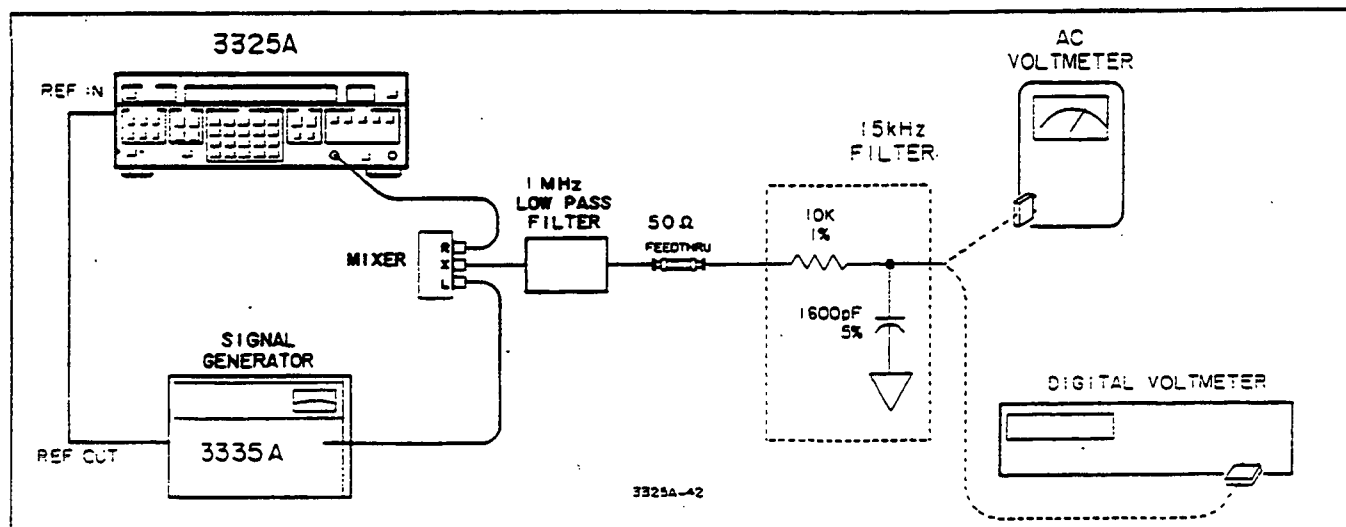

Figure 4-3. Integrated Phase Noise Test
Capacitor:  $1600\text{ pF} \pm 5\%$  (-hp- Part No. 0160-2223) See Figure 4-3
a. Connect the equipment as shown in Figure 4-3, connecting the 15kHz noise equivalent filter output to the ac voltmeter. Phase lock the 3325A and the signal generator together.